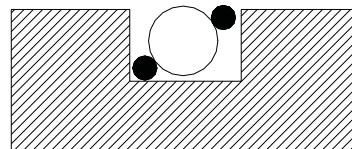

Figure 2
- Apply a bead of Loctite 515 (1/8" dia. max) to the entire circumference between the O-ring and top O.D. of the groove as shown in Figure 2.